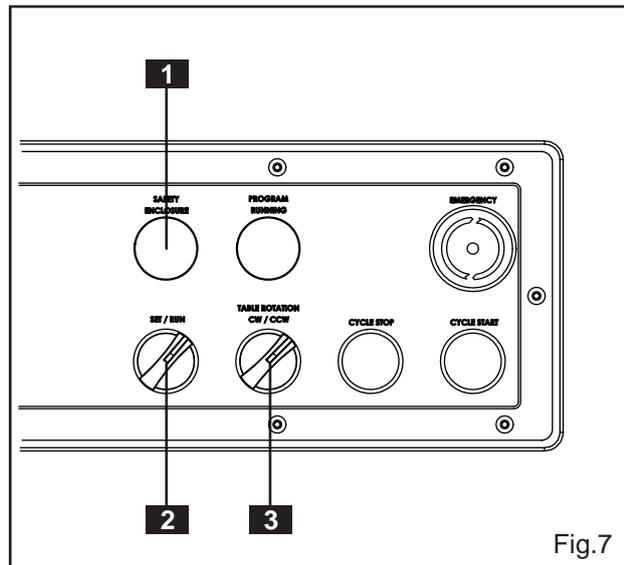

Fig.7
1. Preparations before starting (Fig.7)